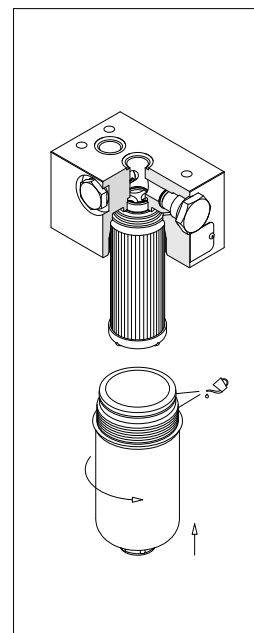

fig. 8
- (Fig. 8) Lubricate the thread and the O-ring of the bowl, then screw the bowl in referring to the tightening torque table in paragraph 3